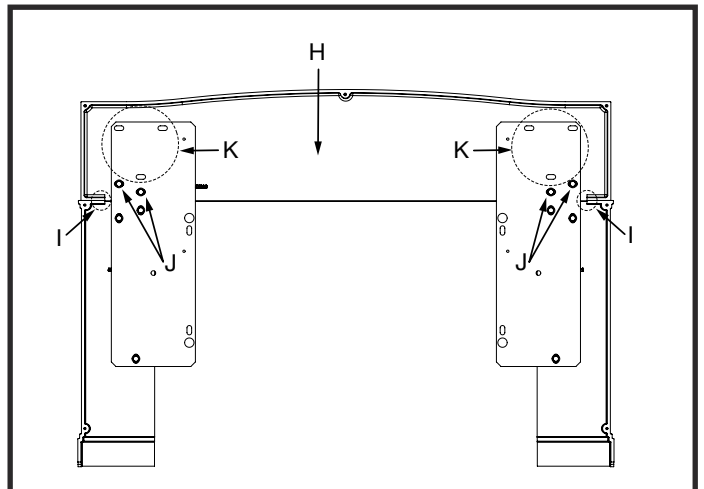

Figure 14: Securing brackets to surrounds.
5. Using a blanket or cardboard to protect the parts, lay the Surround sides flat on floor and align with Surround Top(H). Square the surround by aligning edges(I) on each side. Fasten bolts (J) to attach bracket (Figure 14).
NOTE: If mounting an Oversized Surround (not shown), use mounting holes (K) to attach (Figure 14).